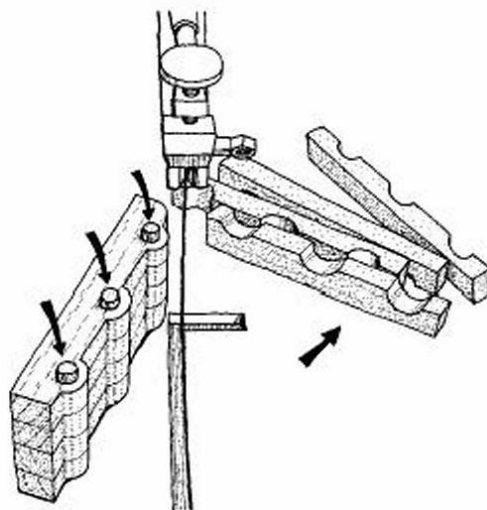

FIGURE 6-3
- 4 Push lengths of $\frac{1}{4}$ " dowel through the holes to hold the four pieces of wood together, and fret out the total three-curve shape on the scroll saw (Fig 6-3).